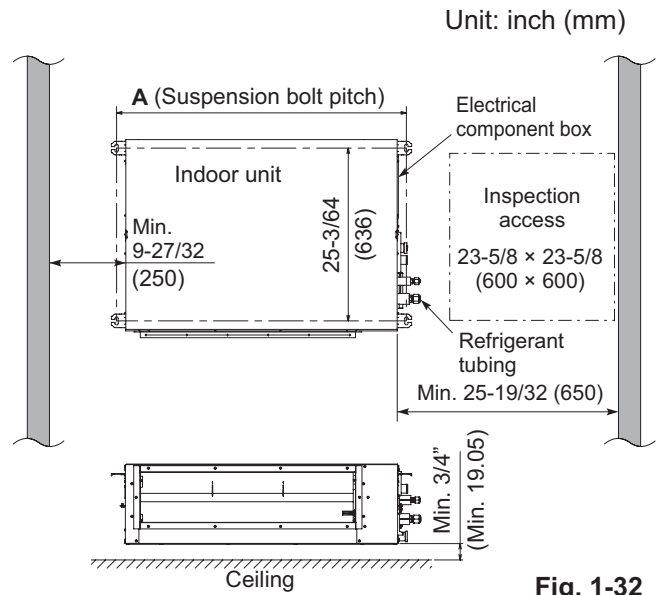

Fig. 1-32
- The minimum space for installation and service is shown in Fig. 1-32 and Table 1-6.
- Space between the unit and the ceiling should be more than 3/4" (19.05 mm). (Fig. 1-32)
- (1) When placing the unit inside the ceiling, determine the pitch of the suspension bolts referring to the dimensional data as shown in Fig. 1-32 and Table 1-8. Tubing must be laid and connected inside the ceiling when suspending the unit. If the ceiling is already constructed, lay the tubing into position for connection to the unit before placing the unit inside the ceiling.